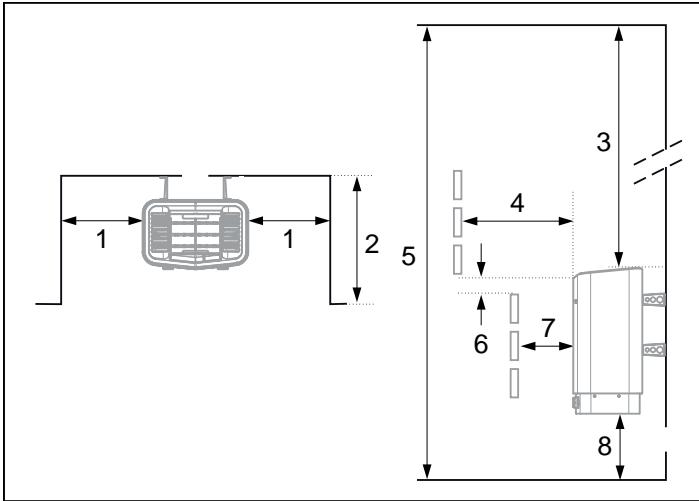

Figure 3: Positioning the heater - recess installation
- on the same wall as the door (or the side wall if very close to the door wall). The heater can also be positioned in a recess (see Figure 3, Page 6).
Position the heater at a safe distance from the floor, side walls and interior fittings (see Figure 3, Page 6).